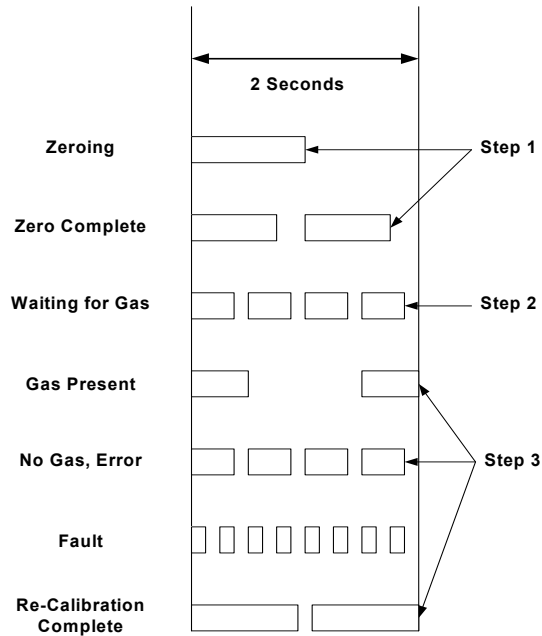

Figure 8. IR400 Zero Switch / LED During Zeroing and Calibration
- When the unit has finished zeroing, the LED will turn on and flash off quickly once per second for 30 seconds (*Zero Complete* in Figure 8).